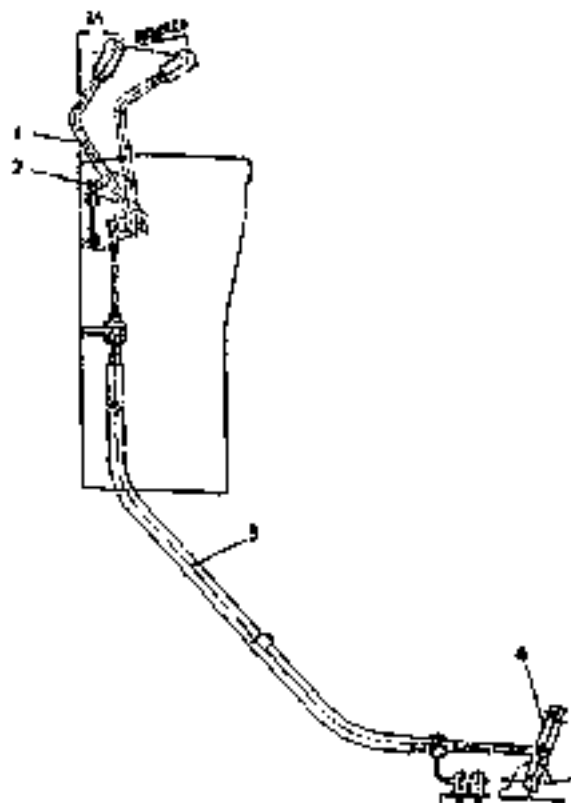

Fig. 5-32
Adjustment of steering control lever in travel of PD220Y-1 and PD220YS is shown in Fig. 5-32. The lever(1) should be positioned about 78mm from the guide side and come into contact with the plate(2). When the lever(1) is pushed forward to the machine body and slightly comes into contact with the plunger, adjust the length of flexible shaft(3) to assure no backlash at lever(1) and make sure that travel of steering control lever is 124 ± 1.0 mm.